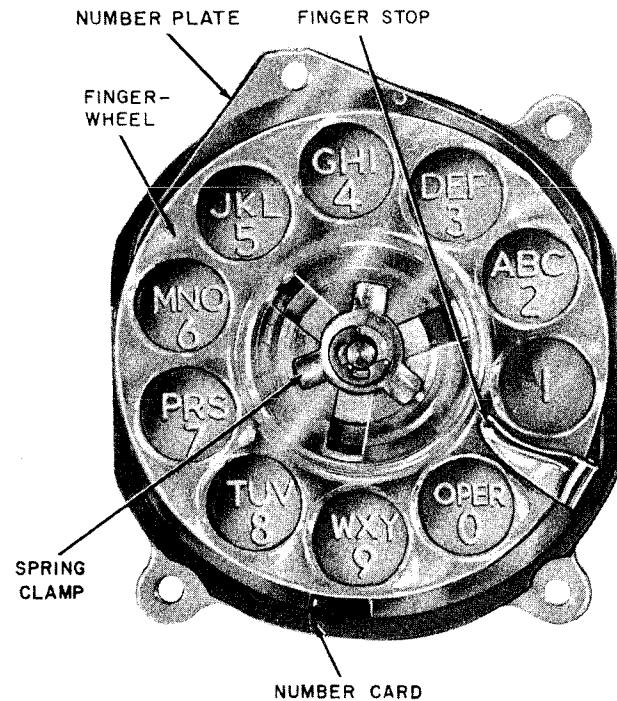

Fig. 1—10A Dial, Front View
2.01 The 10-type dial (Fig. 1 and 2) has a plastic 2-3/8 inch diameter fingerwheel having finger holes on a 10-1/3 division spacing instead of the standard 12 division spacing of the 5- through 9-type dials.